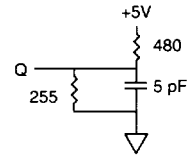

Fig. 2 OUTPUT LOAD EQUIVALENT
6. tHZCE, tHZWE and tHZOE are specified with CL = 5pF as in Fig. 2. Transition is measured ±500mV from steady state voltage.